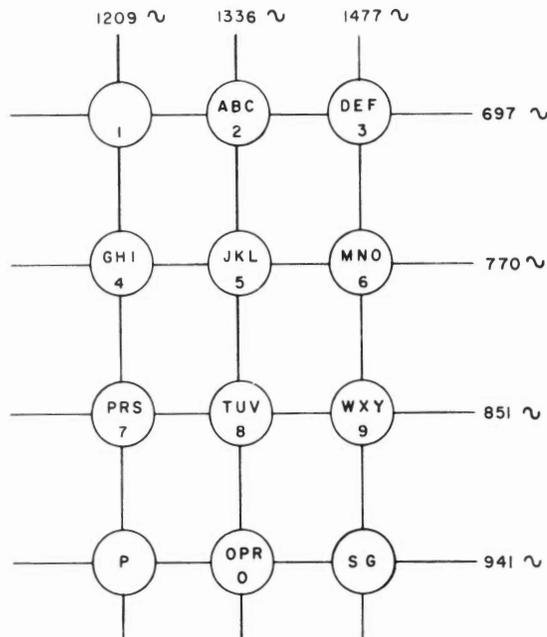

Fig. 1 - Dial Frequencies
1.01 This section shows how to connect the 568HT (TOUCH-TONE dial, Fig. 1 and 3) and the 568HB (Rotary dialing, Fig. 2) telephone sets.
1.10 When a dial button is depressed, two tuned circuits are selected corresponding to the two frequencies required (Fig. 1), and the dial circuit is closed to the ring side of the line. The two frequencies generated by the oscillator are transmitted over the line to the central office receiving equipment which registers the corresponding digit.